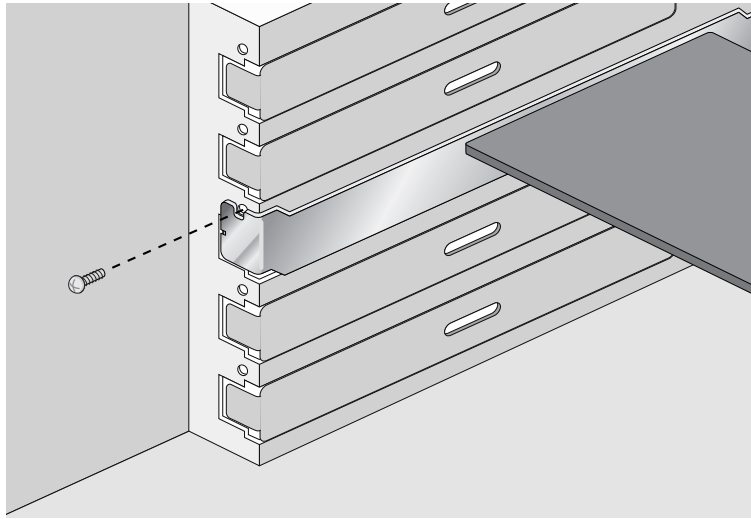

Figure 10. Securing the Adapter with a High-profile Bracket
6. Secure the network adapter card to the chassis with a Phillips-head screw (not provided). See Figure 10 on page 30.